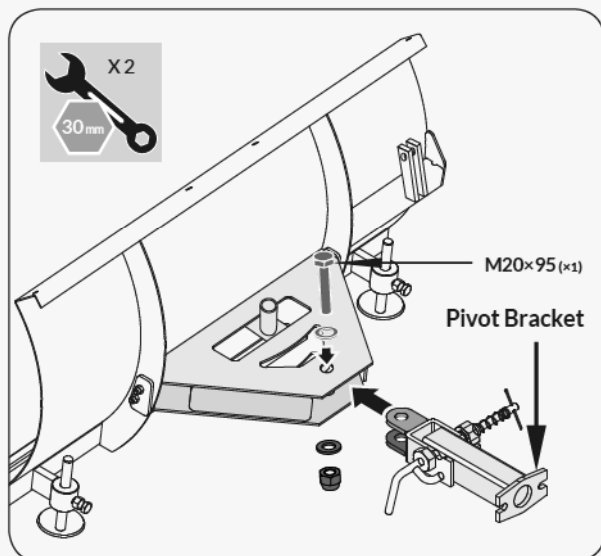

Figure 8b
- Position the pivot bracket inside the mounting bracket and align with mounting bracket holes. Secure with M20×95 hex bolt, washers and nut. (See **Figure 8b**)